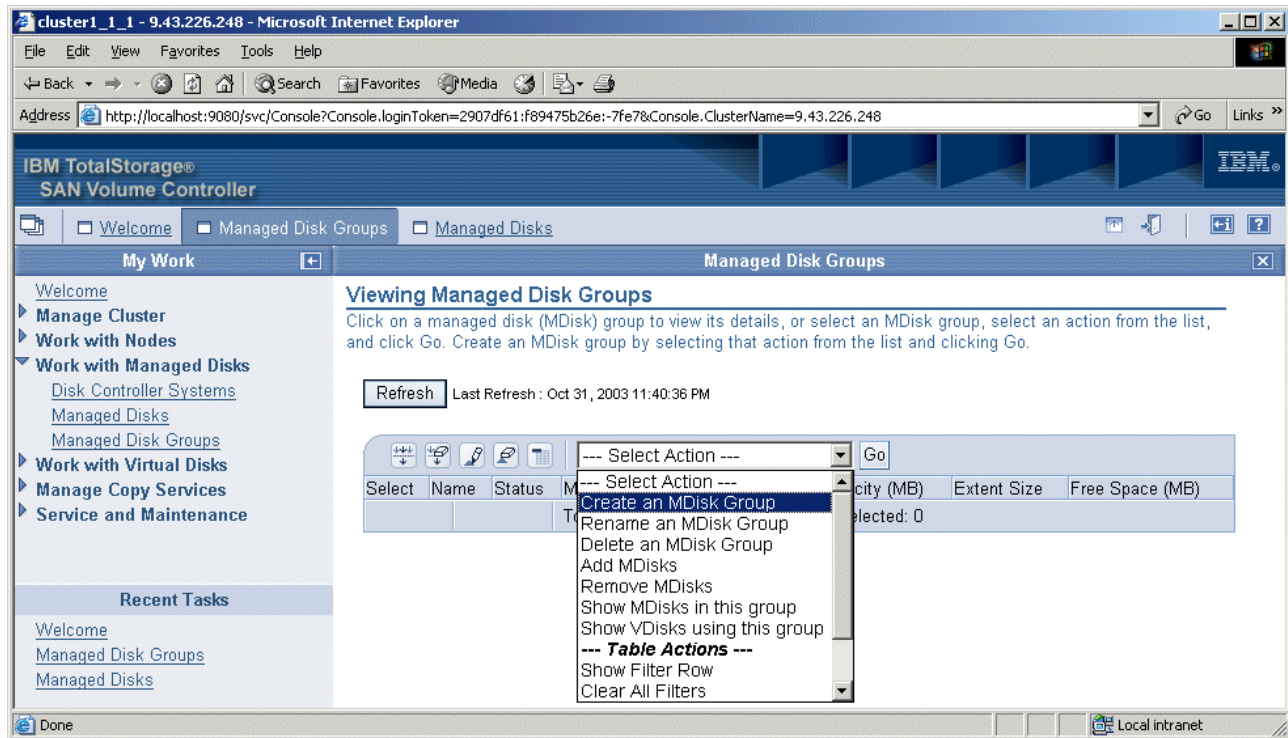

Figure 6-25 Selecting the option to create an mDisk group
3. On the Viewing Managed Disks panel (Figure 6-25), if your mDisks are not displayed, rescan the Fibre Channel network. Select **Discover mDisks** from the list and click **Go**.
3. The Viewing Managed Disks Groups panel (Figure 6-25) opens. Select **Create an mDisk Group** from the list and click **Go**.